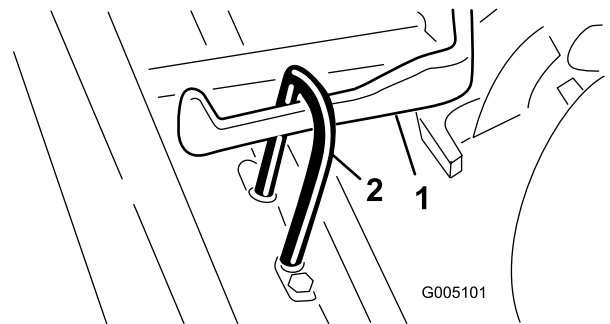

Figure 6
2. Slide the cutting unit under the pull frame while sliding the lift hook onto the lift arm (Figure 6).